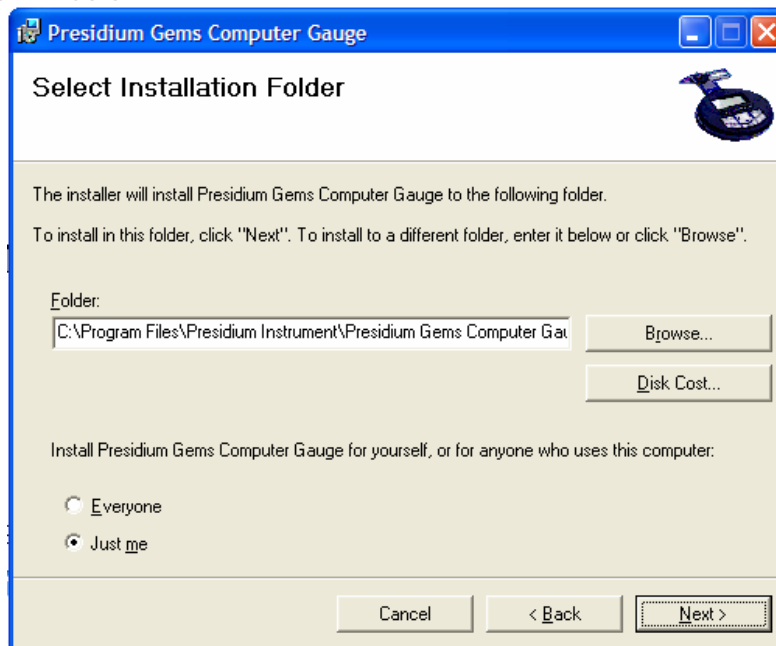

Figure 1.2
- 4) The setup wizard will bring you to another dialog box. Please refer to Figure 1.2 below.